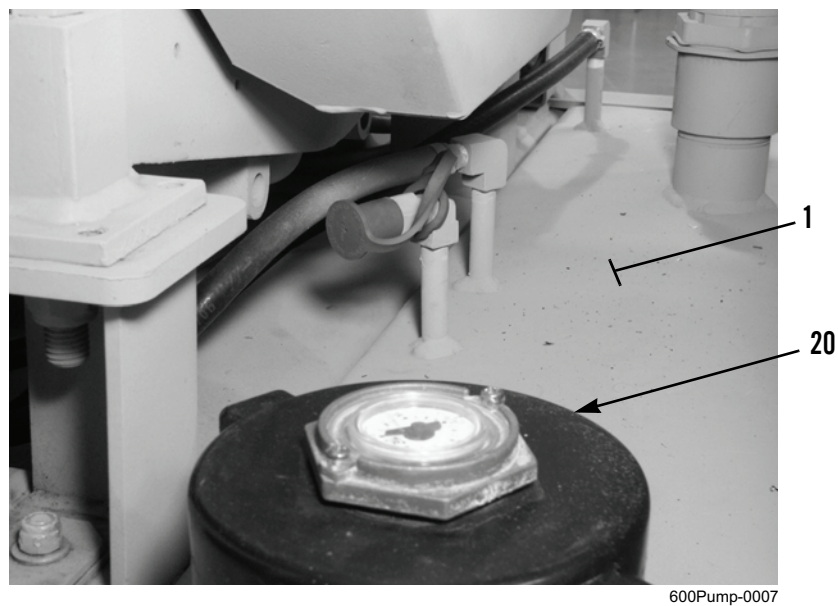

Figure 18. Fuel Tank Cap/Gauge.
2. Remove fuel tank cap/gauge (Figure 18, Item 20) from fuel tank (Figure 18, Item 1).
3. Add fuel until level on fuel tank cap/gauge (Figure 18, Item 20) indicates tank is full.